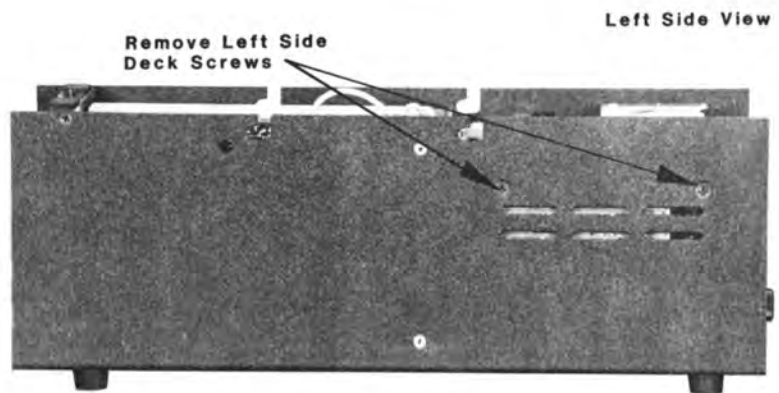

Fig. 5-4
A. Remove the two (2) LEFT side deck mounting screws. Figure 5-4.